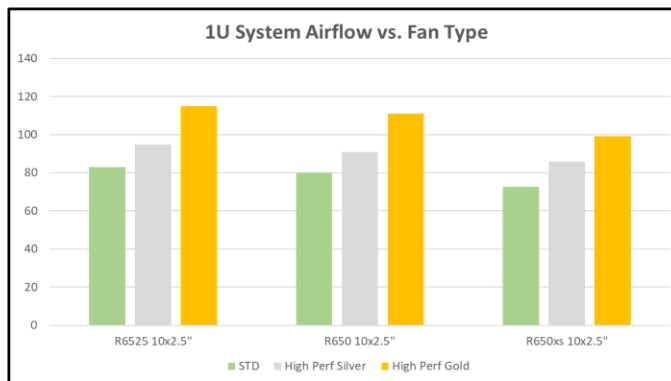

Figure 1 – Comparison of airflow output in CFM
- **Fans** - In addition to the cost-effective standard fans, multiple tiers of high performing, Dell-designed fans are supported to increase system cooling. The high performance silver and gold fans can be configured into next-generation PowerEdge servers for supporting increased compute density. Figure 1 below depicts the airflow increase (in CFM) for these high performance fans when compared to baseline fans.